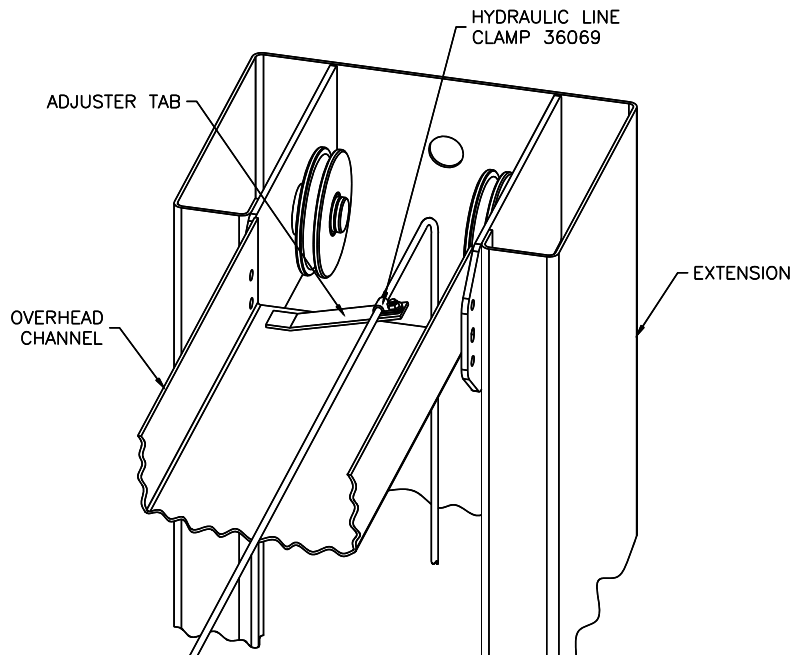

Figure 8
14. Connect the extension hydraulic lines to the cylinder lines in each column using a straight union on the idler side and a tee on the power side. Install the overhead line with the longer leg on the idler side. Install the power unit line to the tee in the power column and to the power unit outlet port. Adjust the tab in the overhead (Fig. 8). Make sure the cables clear during operation.